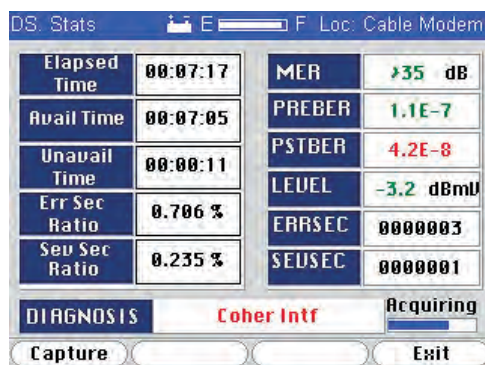

Figure 4-29
**ESR/SESR Mode** - ESR is only available if the Error Data Display in the Digital Setup screen is set to ESR/SESR. Stats, as shown in Figure 4-29, provides additional detail about the downstream signal by replacing the Constellation display with: Elapsed Time, Available Time, Unavailable Time, Errored Seconds Ratio and Severely Errored Seconds Ratio.